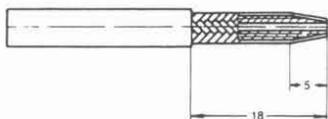

Fig. 8
- 9.1. Cut off cable sleeve and cable insulation to the dimensions given in Fig. 8.